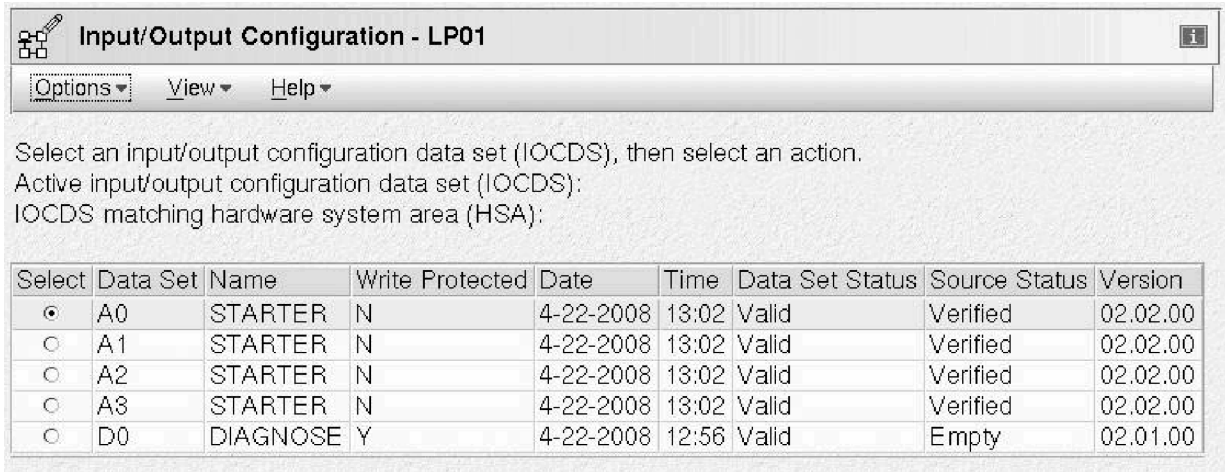

Figure 15. Input/Output Configuration window
3. Click **Input/Output (I/O) Configuration**. This action displays the **Input/Output Configuration** window. Figure 15 on page 10 shows this window. You can perform any of the functions available on the **Input/Output Configuration** window.